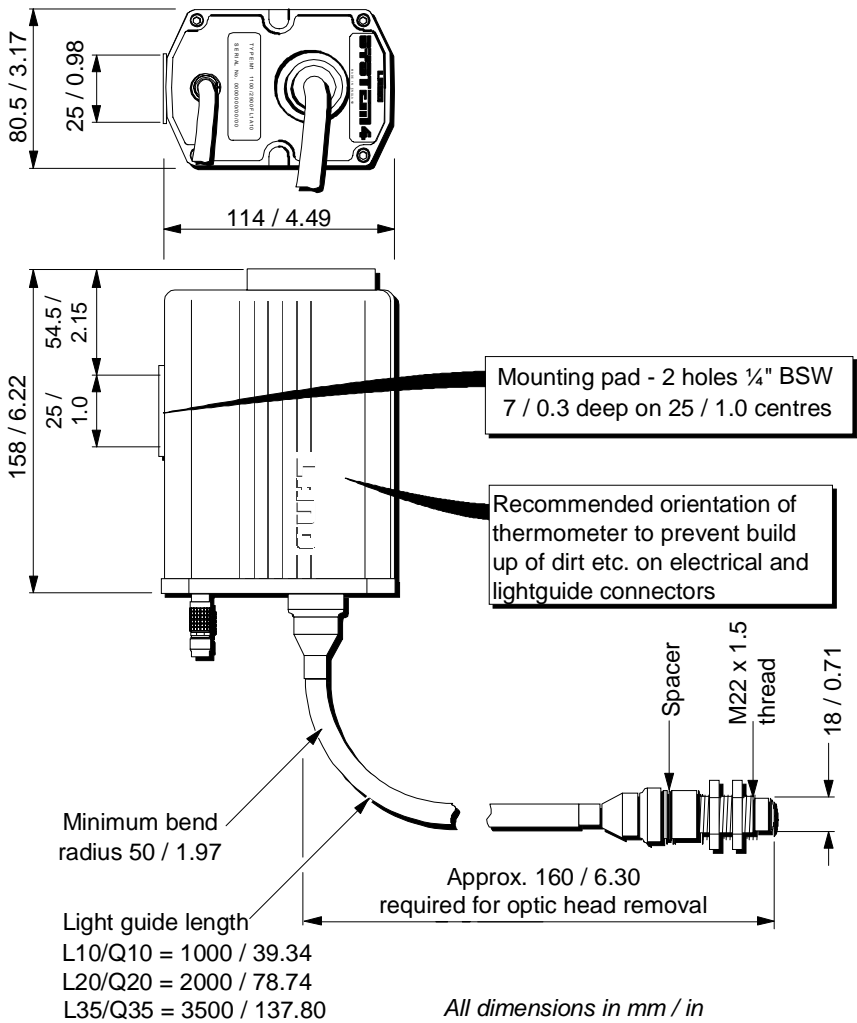

Fig. 3 System 4 Fiberoptic thermometer installation dimensions
- 5) It is important that, in order to prevent any possibility of water ingress into the electronics/detector module, the thermometer is mounted in the orientation shown in Fig. 3.
- 6) It is recommended that, in order to minimise the build-up of dirt etc. on the electrical and lightguide connectors, the thermometer is mounted such that these connectors are on the underside (as shown in Fig. 3).